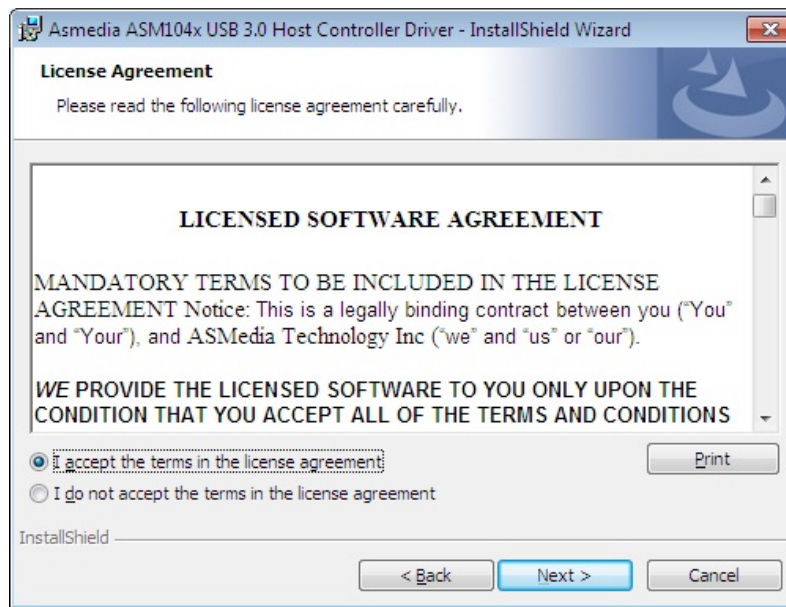

Figure 6-22: USB 3.0 Driver License Agreement
Step 6: The license agreement in **Figure 6-22** appears.